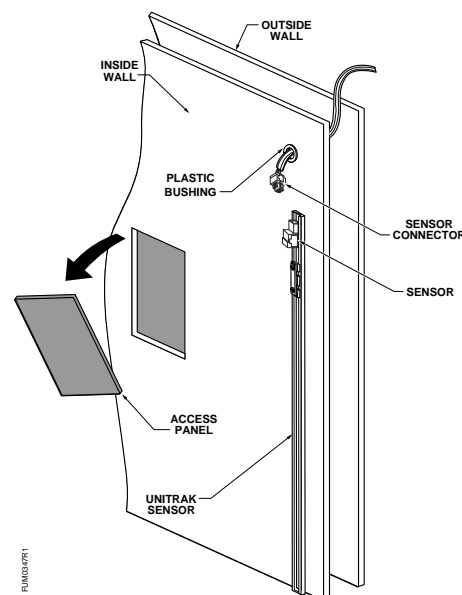

Figure 28. Routing Wires Through Fume Hood Wall.
4. Route the sensor wires through the hole, and fill the bushing with the silicon in the white tube. See Figure 28.